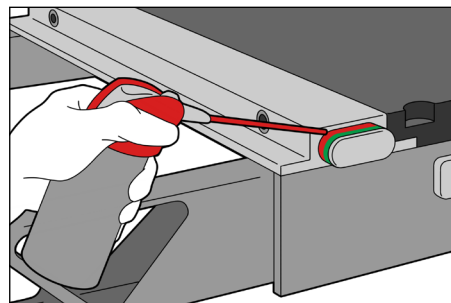

Fig. 5
7. Spray lubricant into the gap between the top of the button and the latch housing to lubricate interior components. (Fig. 5)